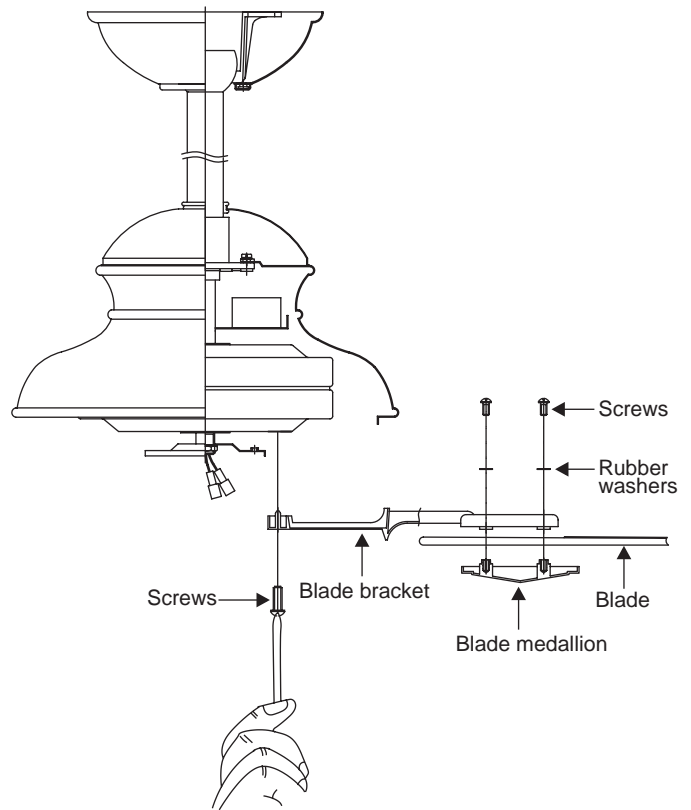

Figure 15
Step 1. Attach the fan blades to the blade holder and blade medallions using the screws and rubber washers provided, tighten screws securely. (Fig. 15)
Step 2 Fasten blade assembly to motor using the screws supplied. (Fig. 15)